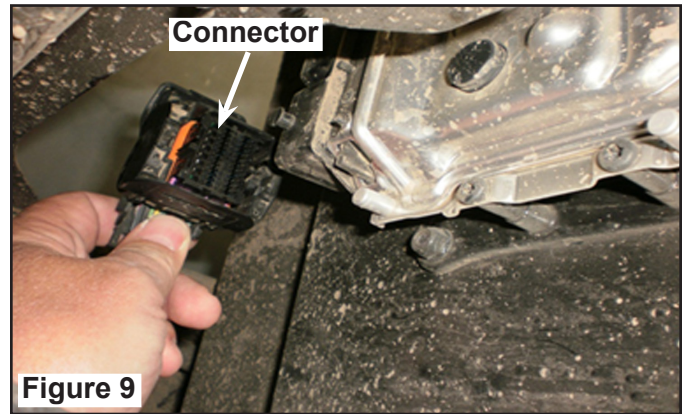

Figure 9
10. Place the connector back on ECU and latch. Figure 9.